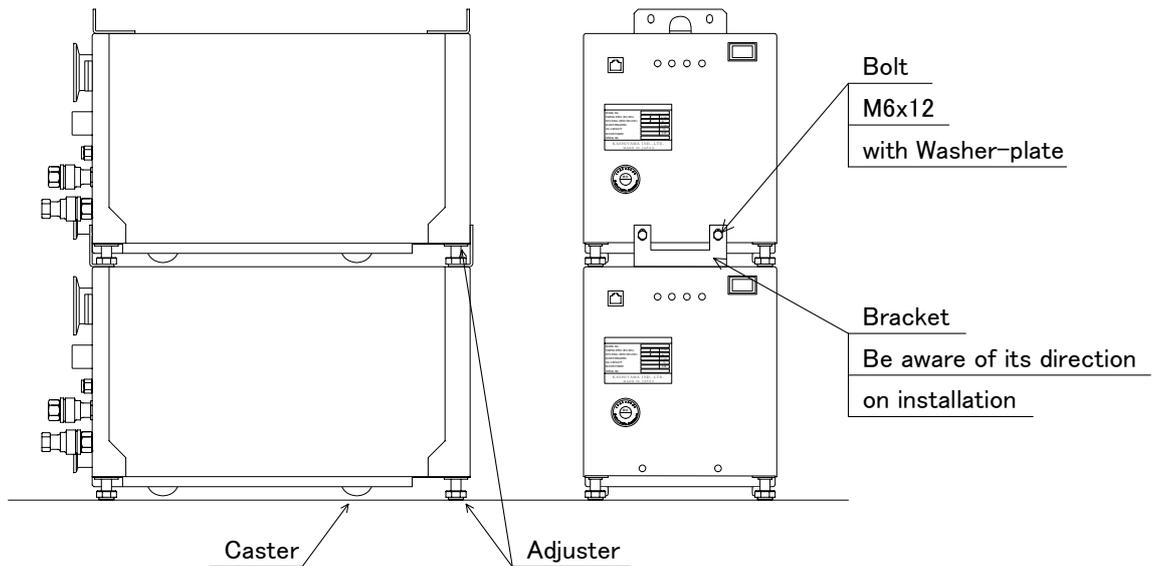

Fig. 4.4 Piling two pumps
- * When piling two pumps, please fix them by the adjuster and couple them with the provided lifting brackets. (2 points)(Fig. 4.4)